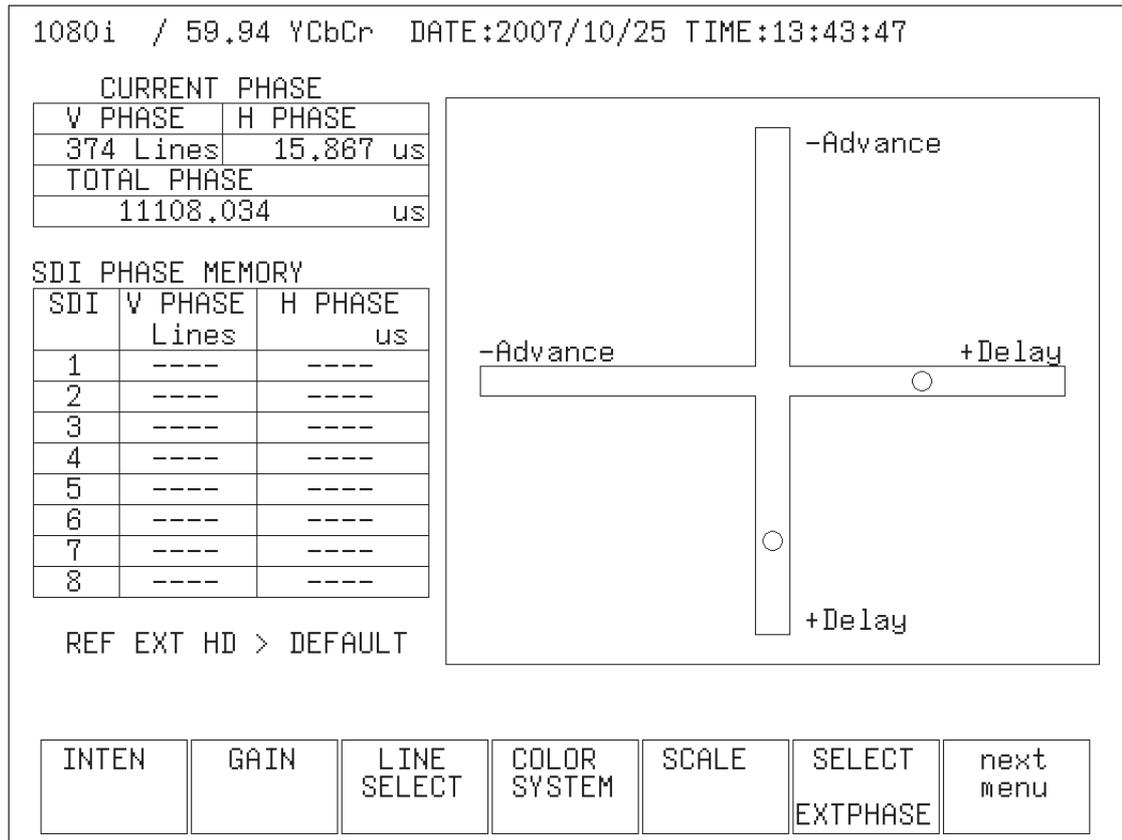

Figure 18.1 SDI-EXT REF phase display and function menu
The SDI-EXT REF phase display of Figure 18.1 appears. This display shows the timing of the SDI signal with respect to the EXT REF signal. If the SDI signal lags the EXT REF signal, Delay (+) is indicated. If the SDI signal is ahead of the EXT REF signal, Advance (-) is indicated.
- (1) The phase difference between the SDI and EXT REF signals that are currently applied is shown numerically in the CURRENT PHASE section on the left side of the display shown in Figure 18.1. In the TOTAL PHASE item, the phase difference is displayed as time of total.
- (2) The graph on the right shows the line difference in the V direction along the vertical axis, and the time difference in the H direction along the horizontal axis. The phase difference is zero when the two circles that indicate the V and H phase differences overlap at the center.
The REF display at the lower left of the display shown in figure 18.1 automatically indicates the following according to the synchronization (REFERENCE) setting.